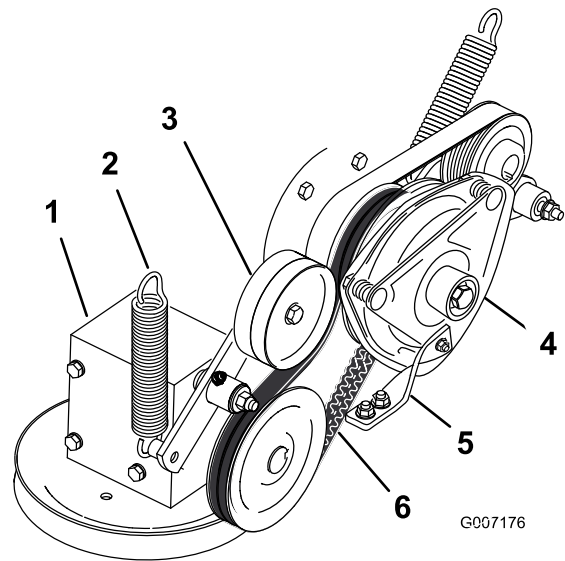

Figure 86
4. Remove the spring from the idler arm (Figure 86).
7. Install the PTO-drive belt around the clutch pulley and the gearbox pulley (Figure 86).
9. Install the spring to the idler arm (Figure 86).